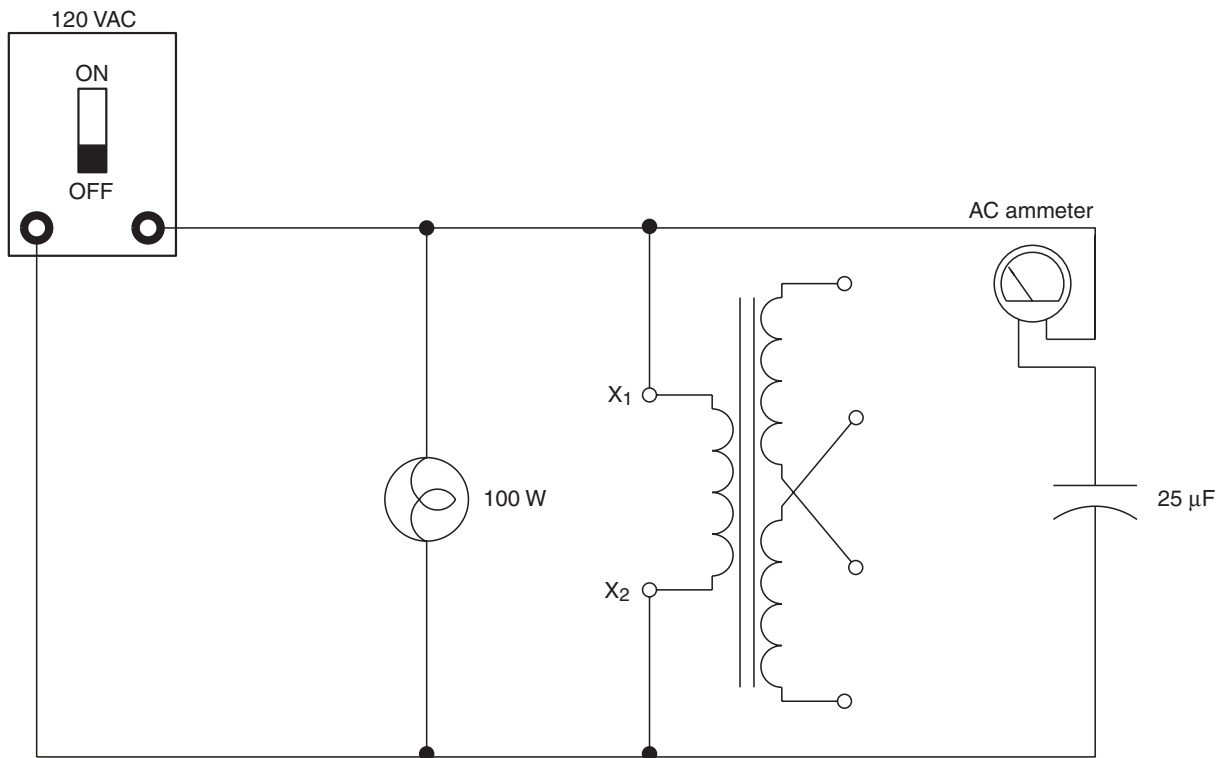

Figure 17-7 Measuring current through the capacitive branch.
11. **Turn off the power supply** and reconnect the ammeter to measure the current flow through the capacitive branch, as shown in Figure 17-7.